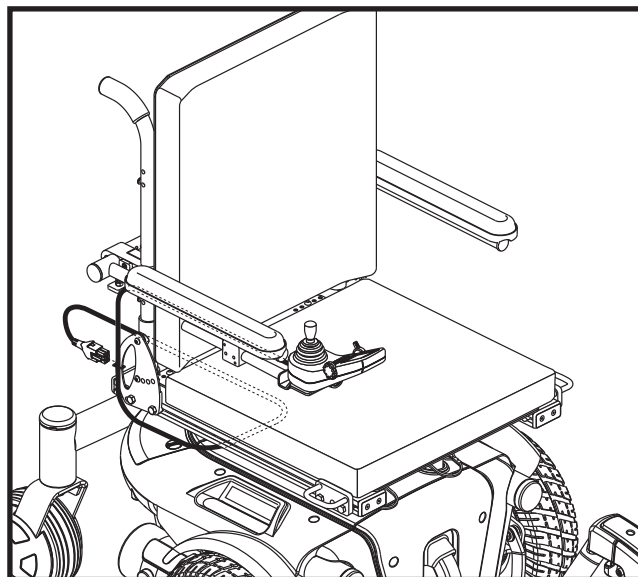

Figure 8. Controller Routed on a Synergy Seat
4. Install the controller and route the harness to the back of the power base. **See figure 8.**